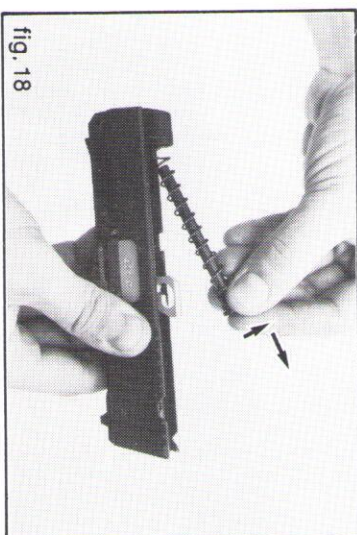

fig. 18
7. Carefully remove the recoil spring with the recoil spring guide from its housing under the barrel (fig. 18). Make sure that it won't jump out.